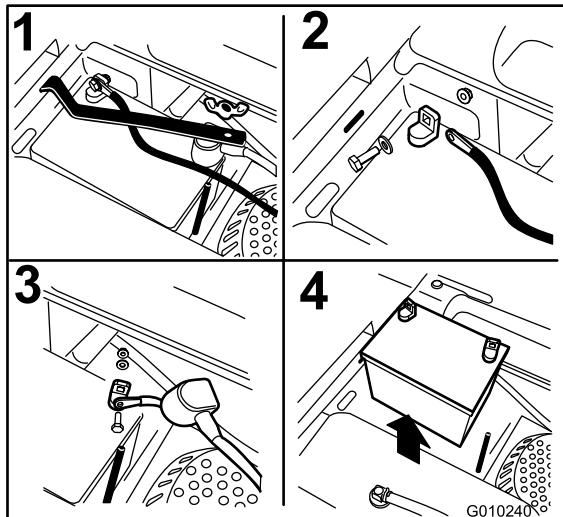

Figure 42
3. Remove the wing nut securing the battery clamp (Figure 42).
4. First disconnect the negative battery cable (black) from the negative (-)(black) battery terminal (Figure 42).
5. Slide the red terminal boot off the positive (red) battery terminal and remove the positive (+)(red) battery cable (Figure 42).
6. Remove the clamp (Figure 42).
1. Position battery in the tray with the terminal posts opposite from the hydraulic tank (Figure 42).
4. Secure the cables with 2 bolts, 2 washers, and 2 locknuts (Figure 42).
6. Install the clamp and secure it with the wing nut (Figure 42).